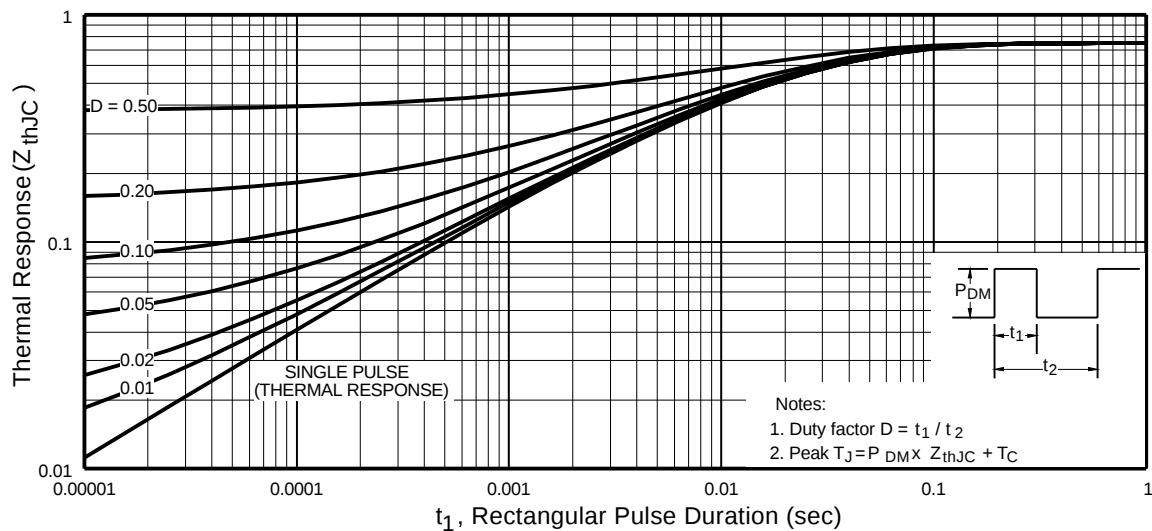

Fig 11. Maximum Effective Transient Thermal Impedance, Junction-to-Case
- ① Repetitive rating; pulse width limited by max. junction temperature. (See fig. 11)
- ② Starting $T_J = 25^\circ\text{C}$, $L = 0.12mH$